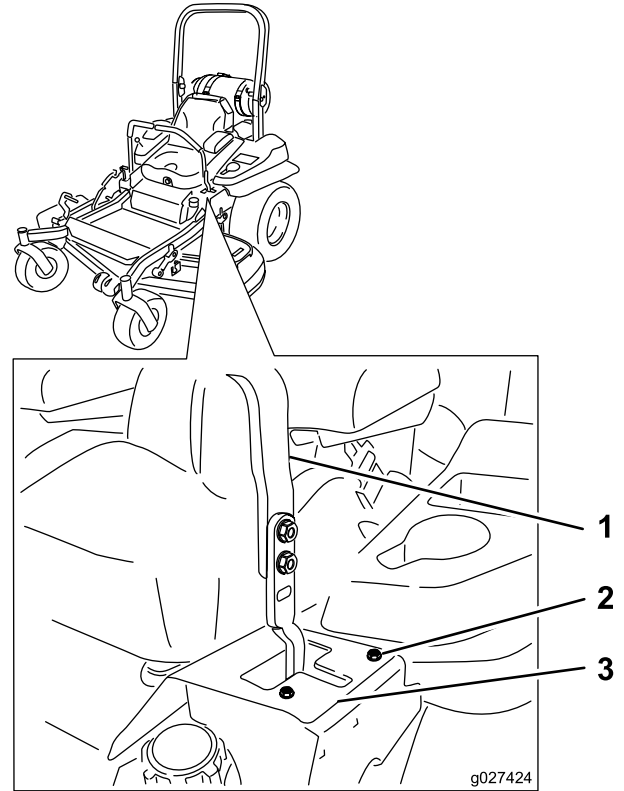

Figure 62
- If it tracks to the right, loosen the bolts and adjust the left stop plate rearward on the left T-slot until the machine tracks straight (Figure 62).
- If it tracks to the left, loosen the bolts and adjust the right stop plate rearward on the right T-slot until the machine tracks straight (Figure 62).
6. Tighten the stop plate (Figure 62).